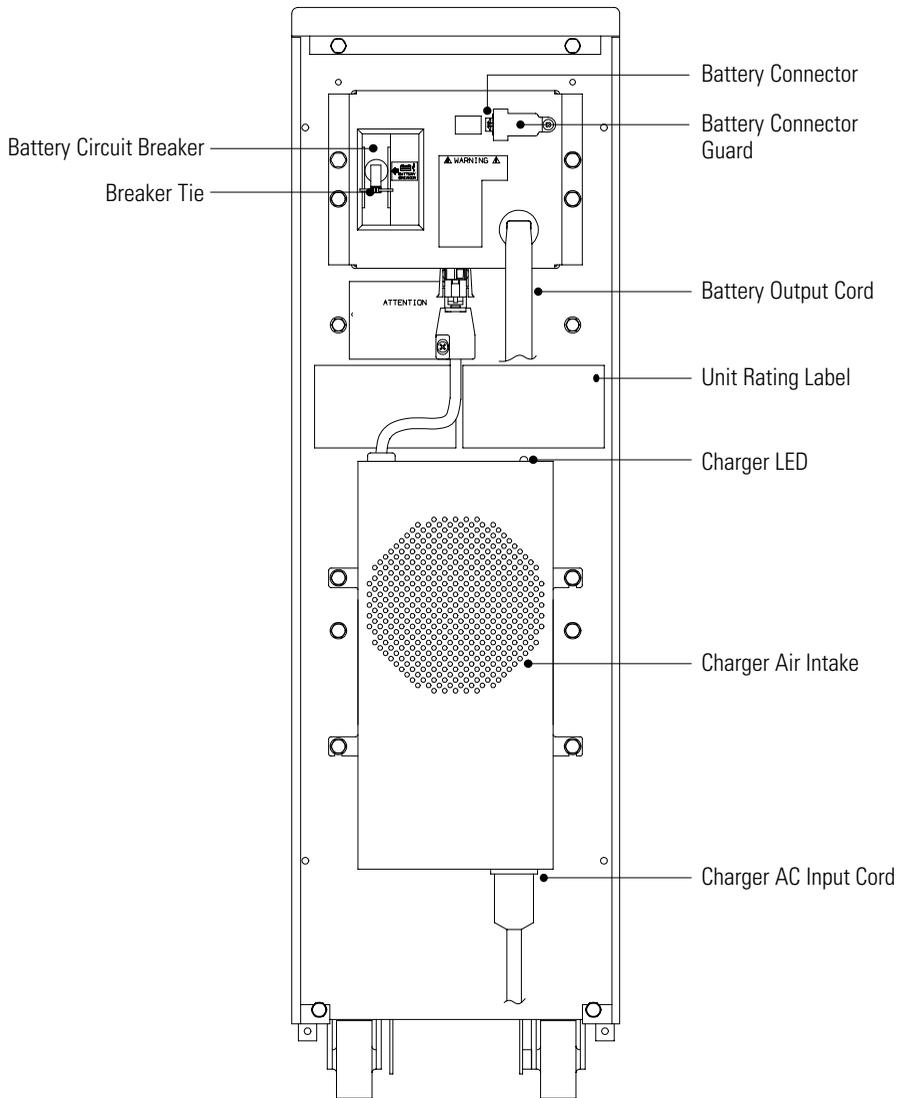

Figure 5. EBC Rear View
8. Verify the circuit breaker on all EBCs and battery modules is in the OFF (O) position (see Figure 5 on page 10).